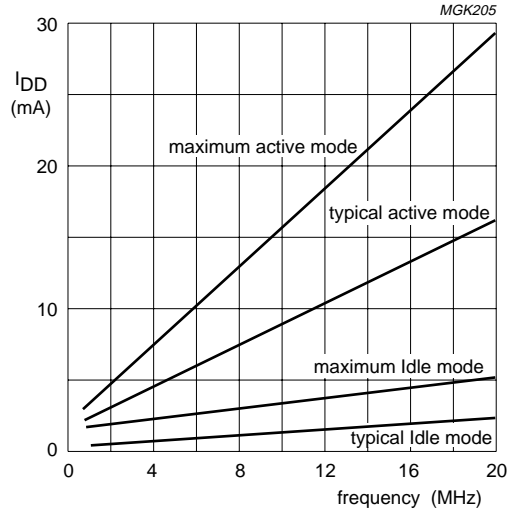

Fig.28 IDD as function of frequency; valid only within frequency specifications of the device under test.
- IDD(max) at other frequencies can be derived from Fig.28.